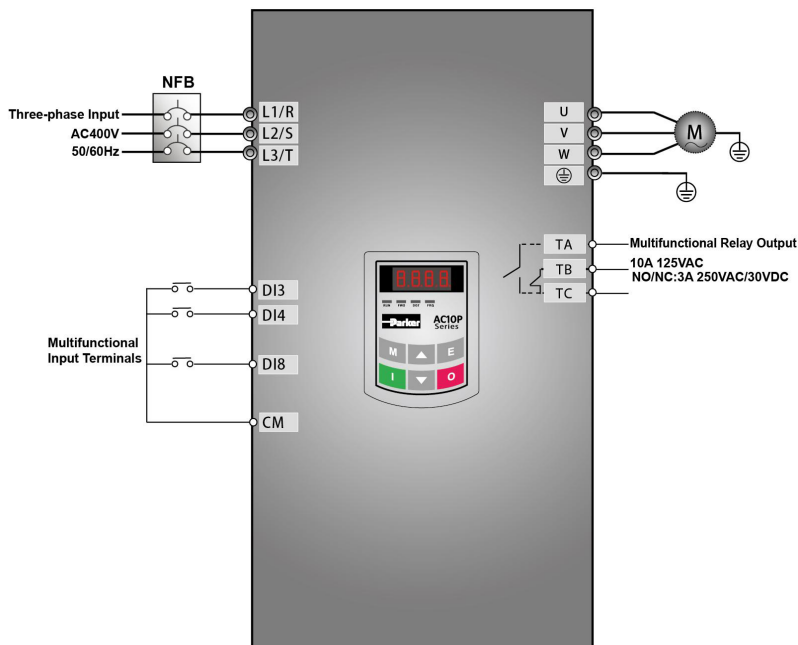

Figure 5-2 Wiring Diagram 2
(1) Connect the wires in accordance with Figure 5-2. After having checked the wiring successfully, switch on the air switch, and power on the inverter;